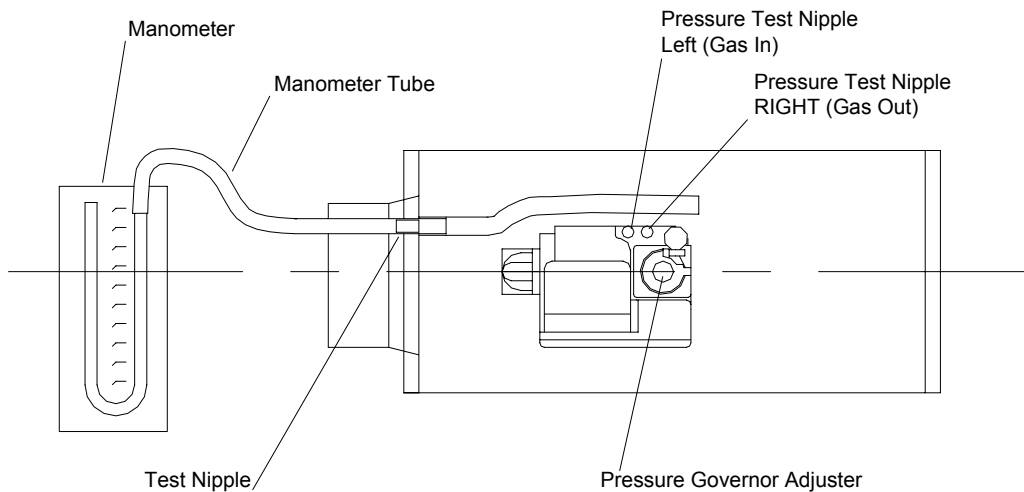

Fig. 19
5.3.2 Connect a manometer to the test nipple protruding from the rear panel of the Control Box (adjacent to the Air Inlet Adaptor) see Fig. 19.
5.3.4.1 Unscrew the sealing screw (two turns) of the LEFT (Gas IN) Control Valve test nipple and connect the free end of the manometer tube (permanently connected to the manometer test nipple inside the rear panel of the control box) to this test nipple (See Fig. 19). Close the control box door and secure with the two toggle latches.
5.3.5.1 Unscrew the sealing screw (two turns) of the RIGHT (Gas OUT) Control Valve test nipple and connect the free end of the manometer tube (permanently connected to the manometer test nipple inside the rear panel of the control box) to this test nipple (See Fig. 19). Close the control box door and secure with the two toggle latches.
5.3.5.3 In the event that the burner setting pressure is incorrect, switch off the electricity supply to the appliance and remove the cap from the integral pressure governor for the Control Valve. Close the control box door and switch on the electricity supply to the appliance to ignite the burner. Remove the plug from the boss in the control box door and insert a suitable screwdriver through the exposed hole in the box to locate the governor adjusting screw. Adjust the pressure by turning the pressure governor adjusting screw clockwise to increase or anti-clockwise to decrease the burner setting pressure. See Fig. 19.